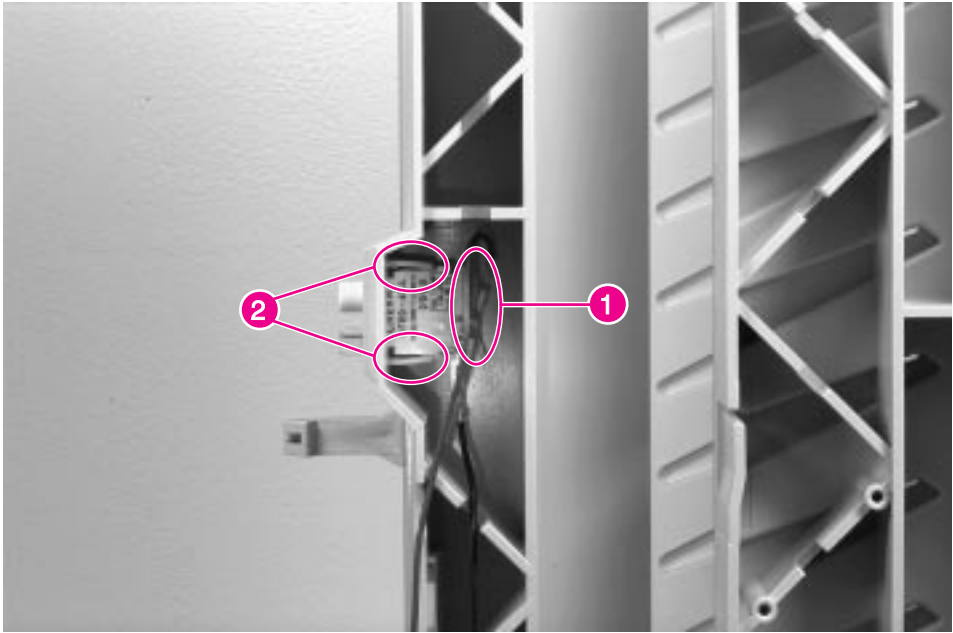

Figure 6-62 Mailbox with Stapler, Interlock Switch
- 2 Disconnect 2 wires from the Interlock Switch (figure 6-62, callout 1).
- 3 Press the retainer tabs together (figure 6-62, callout 2) to release the switch, and remove it from the rear of the unit.